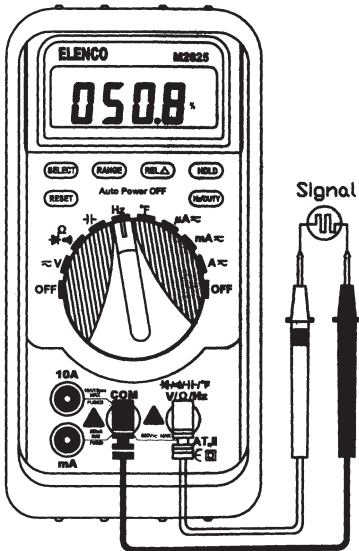

Figure 15. Duty Cycle Measurement
1. Turn on the meter, then set up the meter as shown in Figure 15.